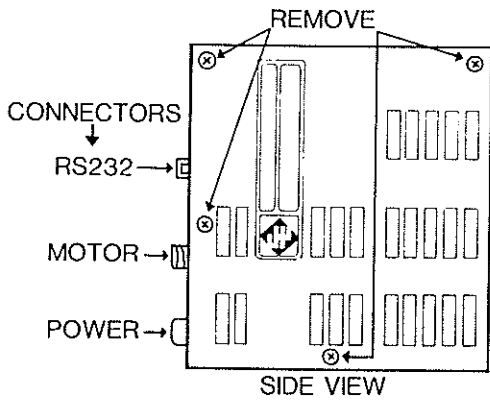

Figure 3.3A
- A. Four screws located on the nameplate panel (two screws fasten to the heat sink, one is adjacent to the motor connector and the fourth is at the bottom center of the panel (see Figure 3.3A).